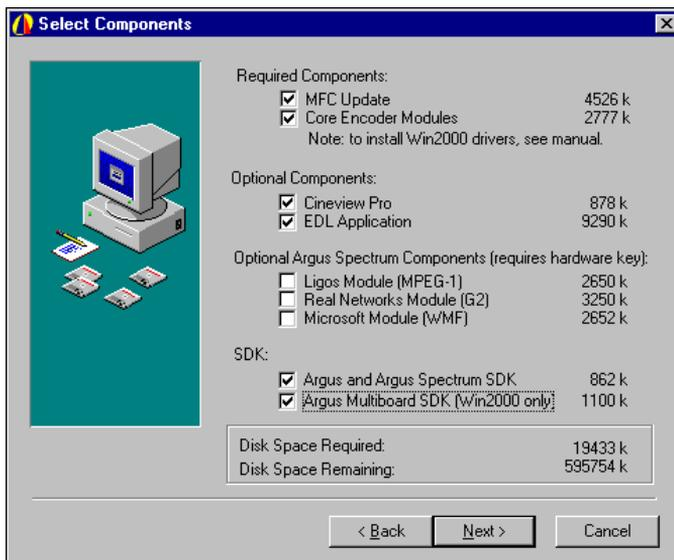

Figure 1-5. Select Components Screen
3. On the "Select Components" screen (Figure 1-5):